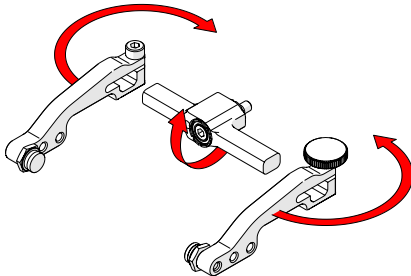

Fig. 72 - Flip yoke and reverse arms
3. Flip the yoke 180° and reverse the probe holder arms (Fig. 72).